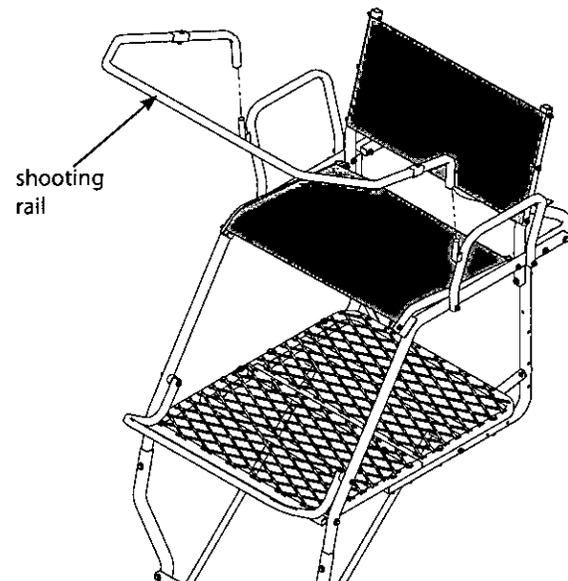

Figure 13
18. a. Attach the removable shooting rail by setting rail down over studs provided on armrests **SEE FIGURE 13. Lubrication is recommended to prevent binding and noise.**
b. Attach the (2) provided 9" and (1) provided 54" camo foam pads to the armrests and shooting rail by wrapping around tubing and attaching Velcro together.